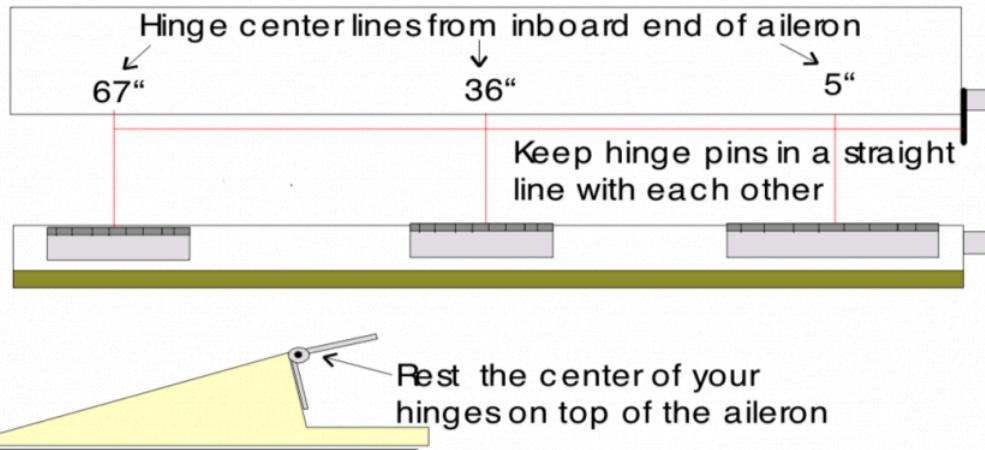

Figure 2-45. Aileron Hinge Notches
- ___ From the inboard end of the aileron measure and mark the centerline positions as shown in Figure 2-45.